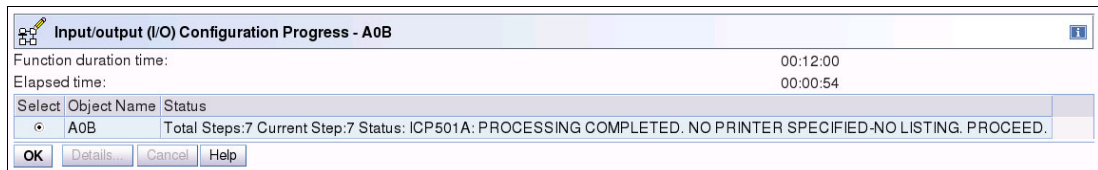

Figure 7-91 HMC - SAIOCP - build process status message
18. Status messages are displayed during the build process. After the process completes successfully, a message is displayed (Figure 7-91). Click **OK**.